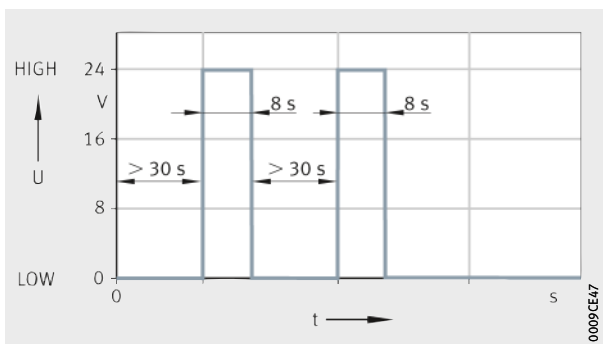

Figure 46
- Control of pump body 4, *Figure 46:*